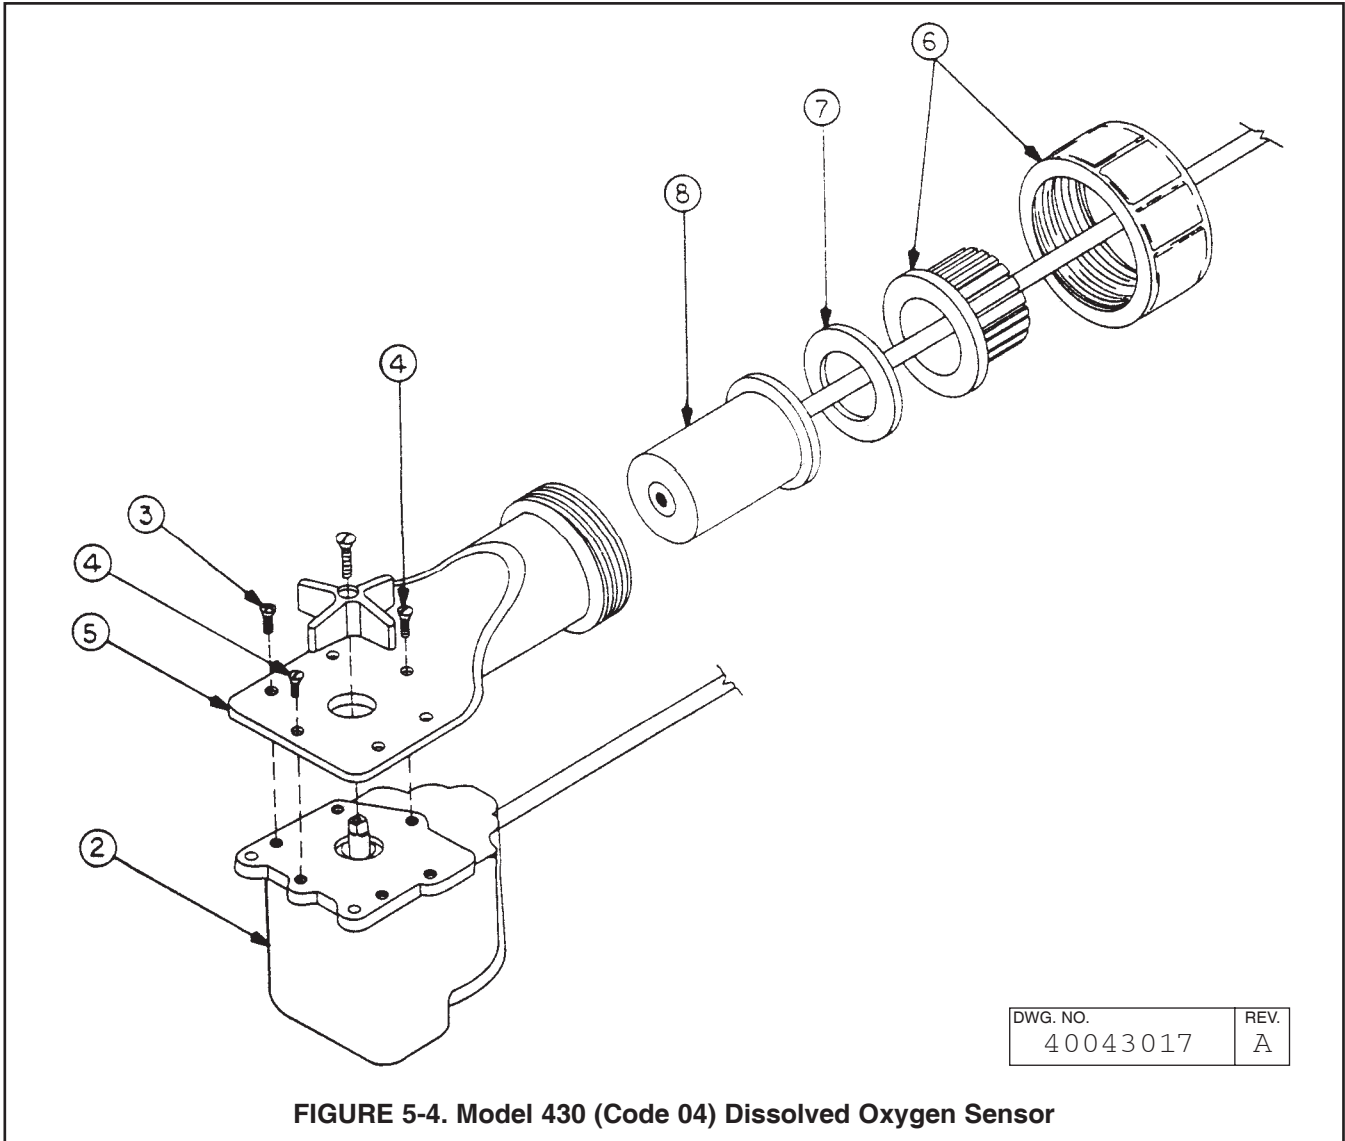

FIGURE 5-4. Model 430 (Code 04) Dissolved Oxygen Sensor
2.3.2 Codes 03 and 04 (see Figure 5-3 and Figure 5-4). These configurations are for submersion into a tank or pond. The Code 03 configuration requires a flow past the sensor of 1.5 feet per second (0.5 m/s). The Code 04 configuration is for stagnant or still tanks and ponds.